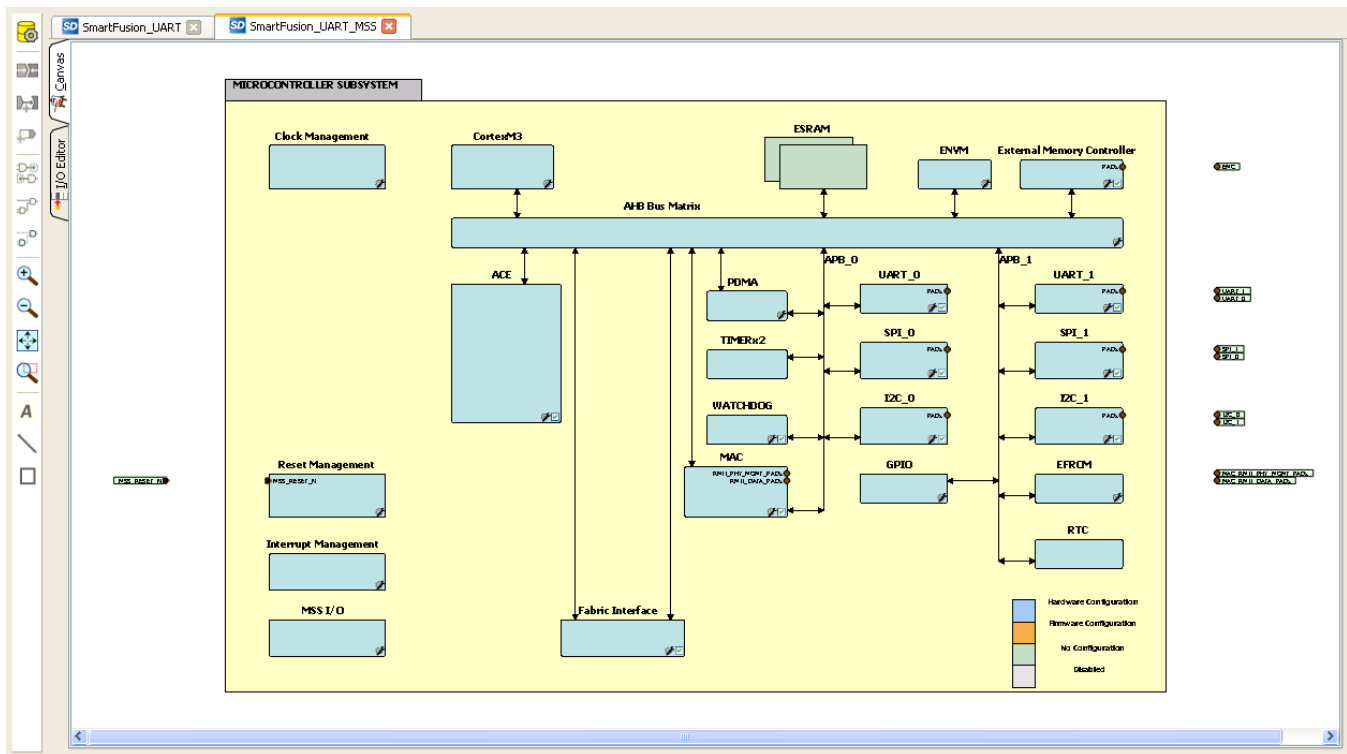

Figure 5 · MSS in the SmartDesign Canvas
1. Double-click the **SmartFusion_UART_MSS_0** component to configure the MSS. The MSS is displayed in the SmartDesign Canvas in a new tab, as shown in Figure 5.